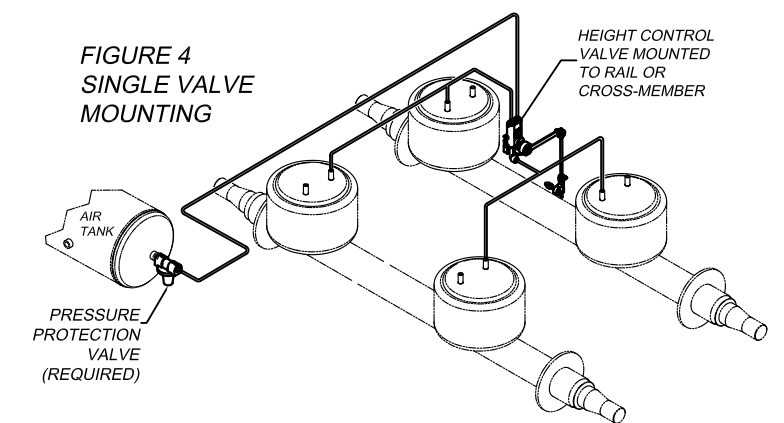

**FIGURE 3**
- Install the HCV on the vehicle. Place two (2) t-bolts into the mounting slots and mount the HCV to the vehicle frame or mounting bracket. Torque the 1/4"-20 nuts to 60-80 in-lbs.
- Assemble the vertical linkage to the HCV and lower mounting bracket as shown in Figure 3. The vertical link is adjustable at the lower end - any excess rod length should be cut off. See suspension configurations for typical linkage installations and their components. Torque 1/4" and 5/16" fasteners to 60-80 and 90-120 in-lbs. respectively.